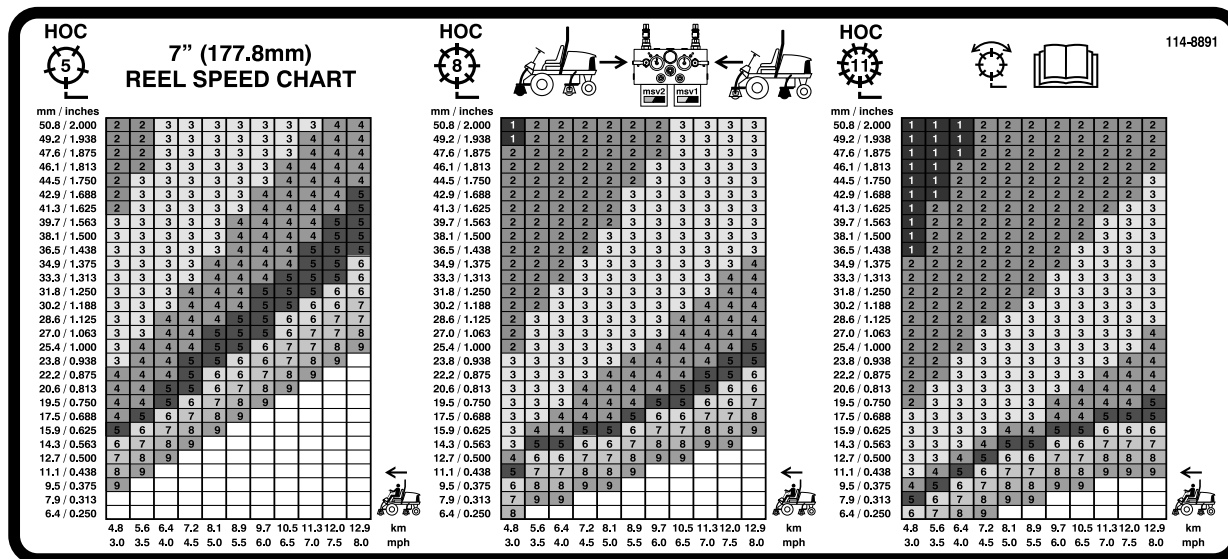
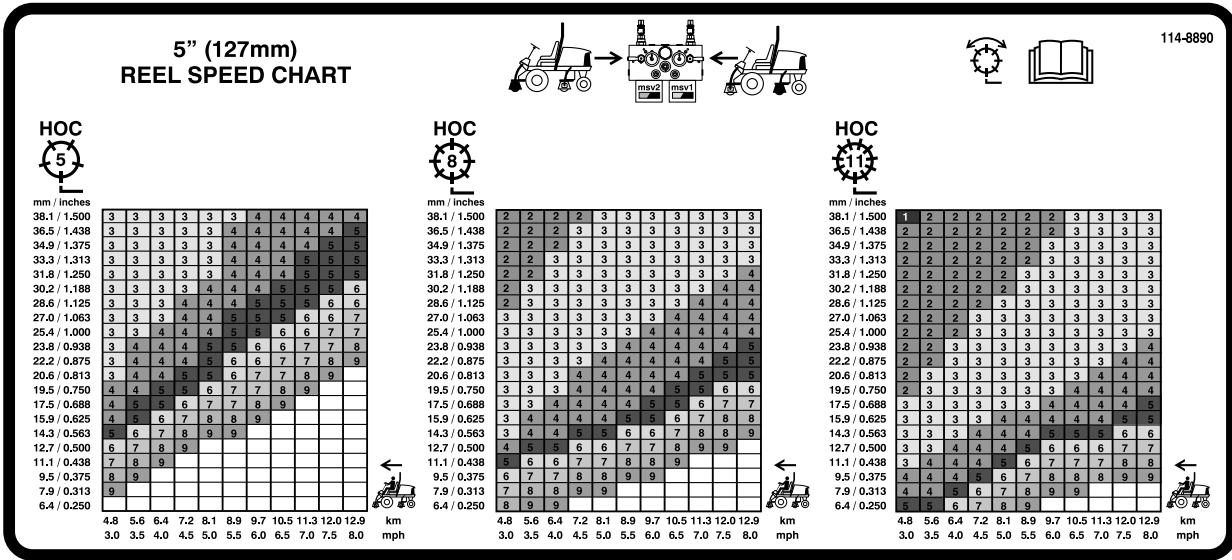

Figure 38
Figure 39
- Using the appropriate graph on decal 110–0996 (Figure 38) for Reelmaster 5510 & 5610, 7 inch reel cutting units or decal 110–8923 (Figure 39) for Reelmaster 5210 & 5410, 5 inch reel cutting units determine the proper reel speed setting.